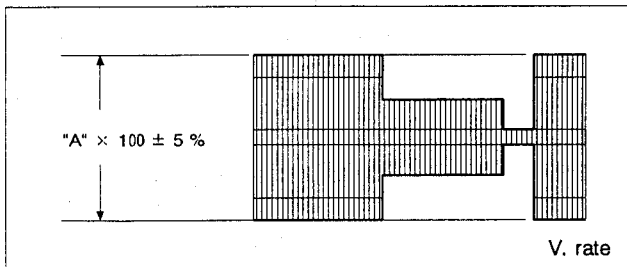

Fig. 3-1-17 C comb gain
- 1) Observe waveform at TP151, and make a note of the color level "A", as in Fig. 3-1-17.
- 3) Adjust R108 so that the color level becomes $100 \pm 5\%$ of the noted "A" level, as in Fig. 3-1-17.